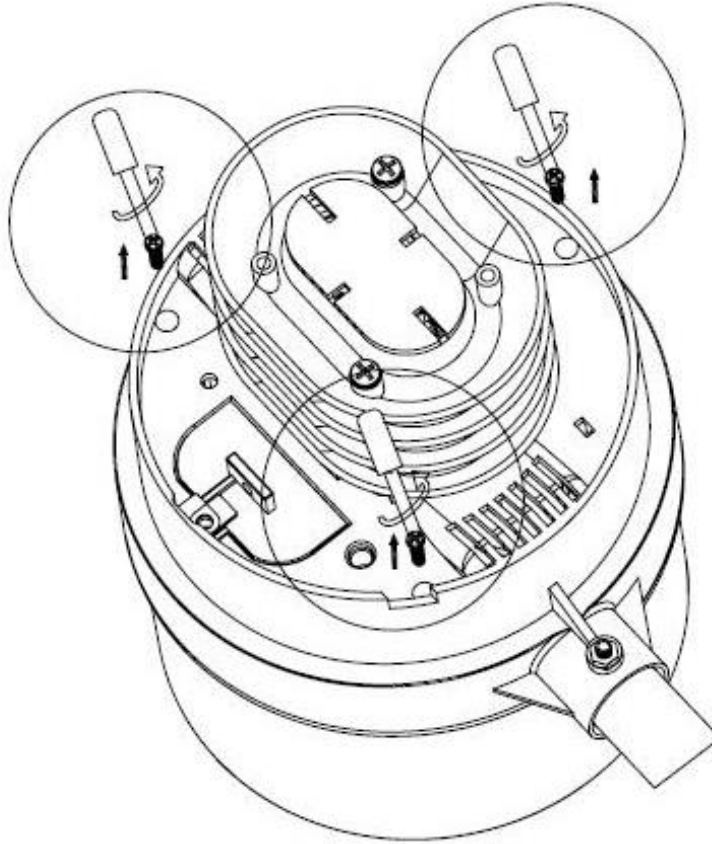

Figure 10
1. Reference Figure 10. Loosen the three recessed screws on the bottom of the thermo-hygrometer rain gauge assembly until there is little tension.